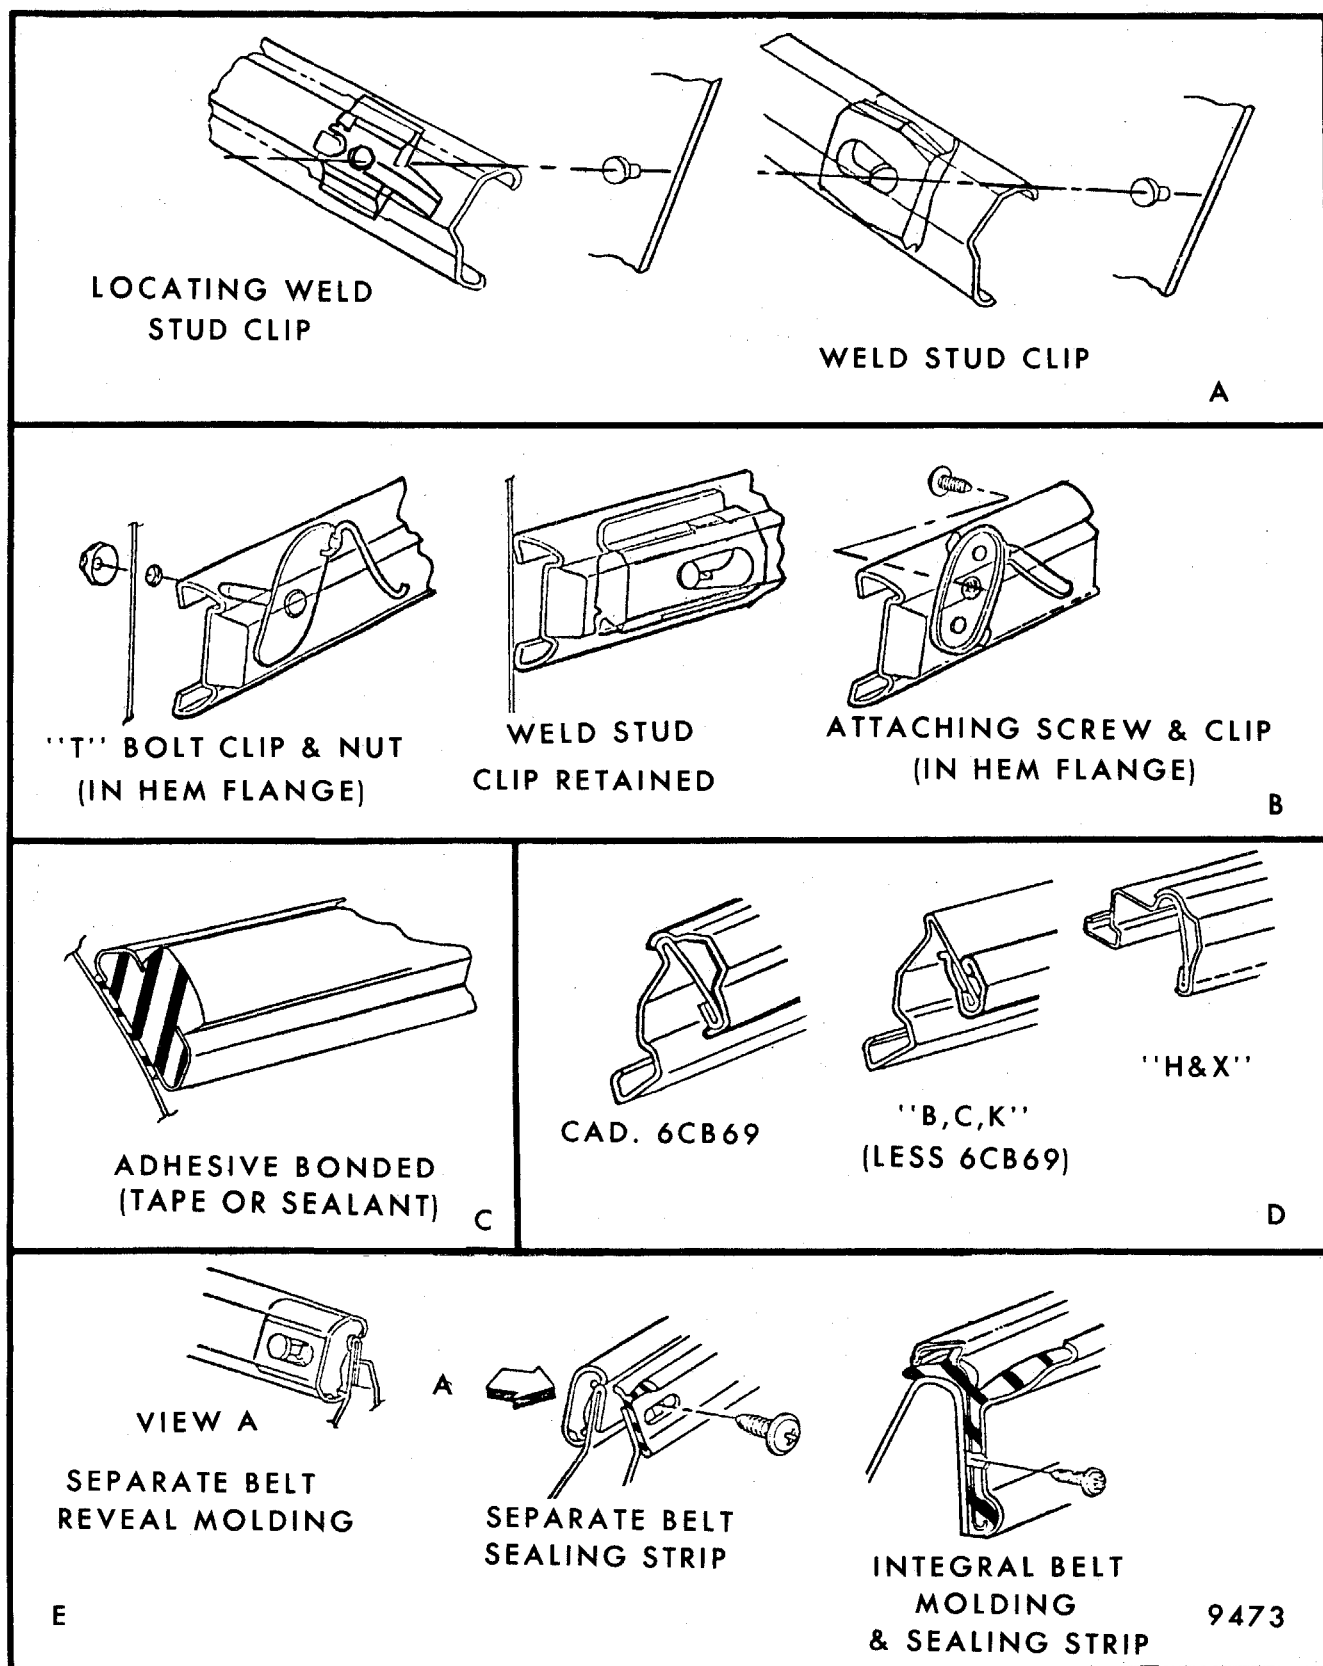

Fig. 5-30 - Door Molding Attachments
The door exterior moldings are secured to the body by any one or a combination of the following attachments. Figure 5-30 illustrates the various door molding attachments.
2. Locate molding number on installation chart (Fig. 5-31). Chart will then identify molding name, attachment(s) reference to Figure 5-30 and specific style (if difference in attachment exists).